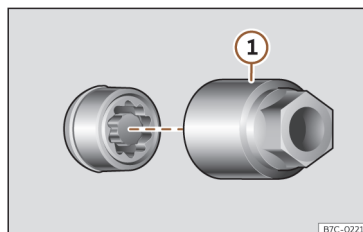

Fig. 193 Anti-theft wheel bolt with cap and adapter.
- Insert the special adapter >>> **Fig. 193 ①** (vehicle tools >>> page 286) onto the anti-theft wheel bolt and push it on as far as it will go.